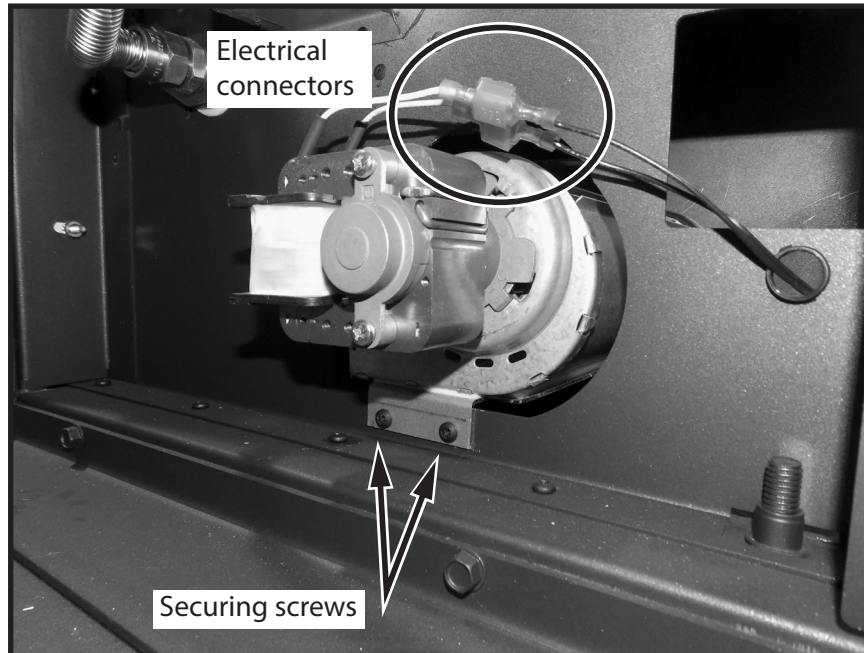

Figure 46: Blower fan connections.
3. Disconnect the power connections (Figure 46).
4. Remove the two (2) screws holding the fan in place (Figure 46) and remove the fan out of unit.